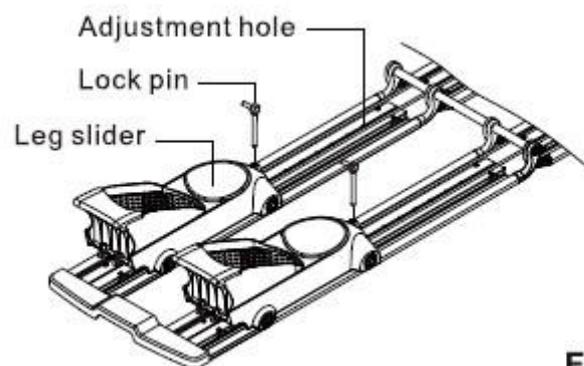

Fig. 11
- B. Pull out the lock pins installed inside of each end of the rotational axis for workouts 3,4 and 5, and lock the hand sliders into the suitable track holes according to needs. (see Fig.11)